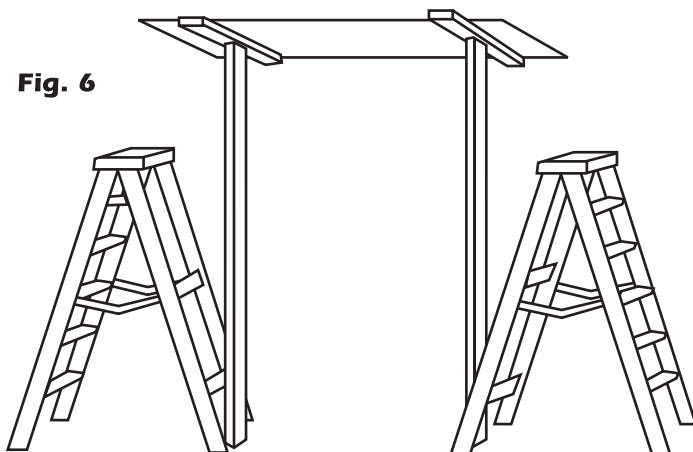

Fig. 6
Step 5– With a helper in the attic, carefully place the stairway onto the top of the stepladders. Have the two ground installers raise the stairway into the rough opening. Secure the door panel tightly against the ceiling with the "T" stands. (See Fig. 6)